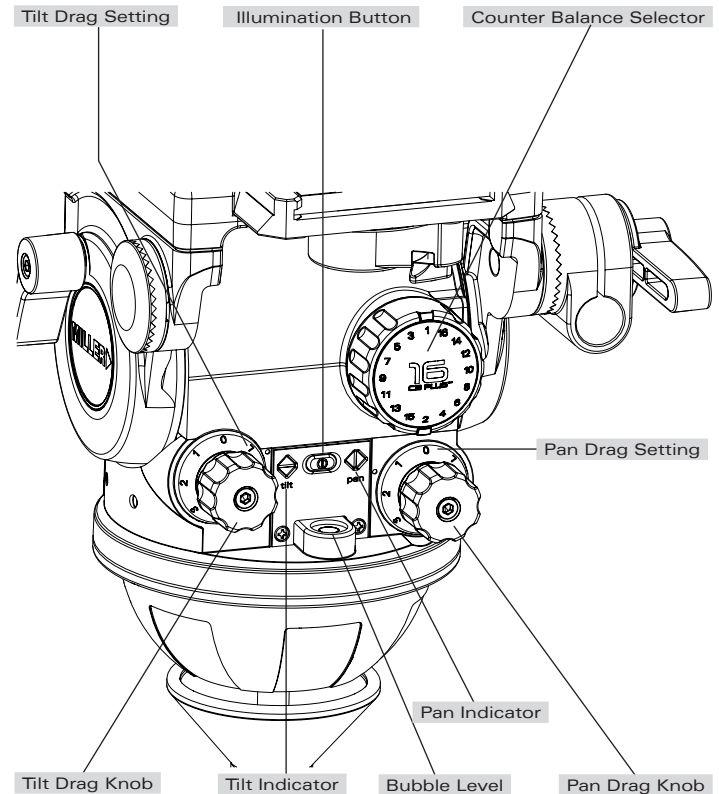

Fig. 5
- 2.6 Release the SLIDING PLATFORM LOCK and slide the SLIDING PLATFORM such that the camera's C of G is directly above the centre axis of the Fluid Head (fig. 5) and tighten the SLIDING PLATFORM LOCK (fig. 5). If this can not be achieved then reposition the CAMERA PLATE on the Camera or the QUICK RELEASE TRIPOD ADAPTOR - step 2.4. This will ensure that the system has maximum stability.